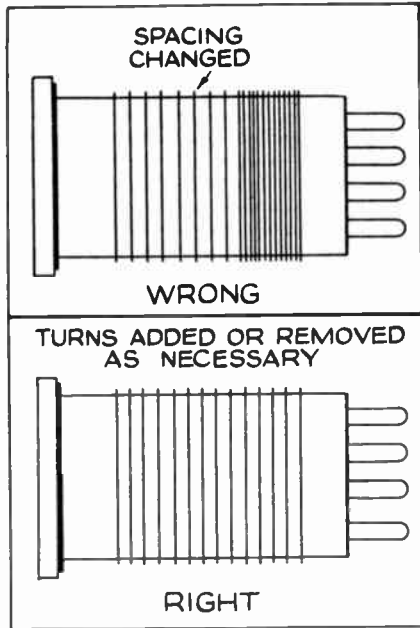

Fig. 15
(A) It is presumed that operation of a gang condenser is the objective; otherwise, such accurate balancing of coil characteristics would not be necessary. The first point to be considered is that each tuned circuit should have its inductance and capacity distributed in the same proportions. For best results, the self (turn-to-turn) capacity of the coil should be evenly distributed along the length of the winding; however, if it is "lumped" at one end or the other of one coil, it should be similarly lumped in the other coils. If the turns are forced out of their original positions the wire is usually loosened slightly, and then the entire coil becomes loose in a fairly short time, since temperature variations cause expansion and contraction of the tube on which the wire is wound. See Fig. 15.